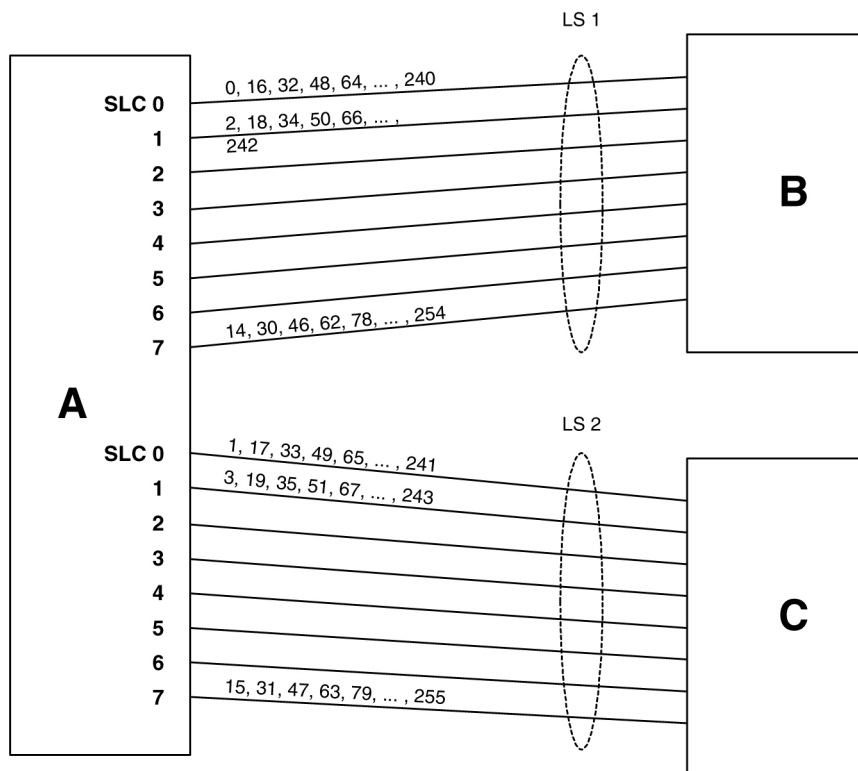

Figure 23: Random SLS Mapping to a Combined Linkset
Figure 23: Random SLS Mapping to a Combined Linkset shows an example of a combined linkset from node A to nodes B and C, with 8 links per linkset. Since 8 bits allows for values 0-255 (decimal), the figure shows how these values are internally mapped to the links of the combined linkset. For ease of reading, not all values are shown.
3. The changed SLS value (with fifth and possibly also first bits ignored) is then divided by the number of links in the linkset (not a combined linkset) and the remainder gives the SLC value. For example, in *Figure 23: Random SLS Mapping to a Combined Linkset*, the SLS value 78 is mapped to SLC 7 in linkset LS1 as follows: